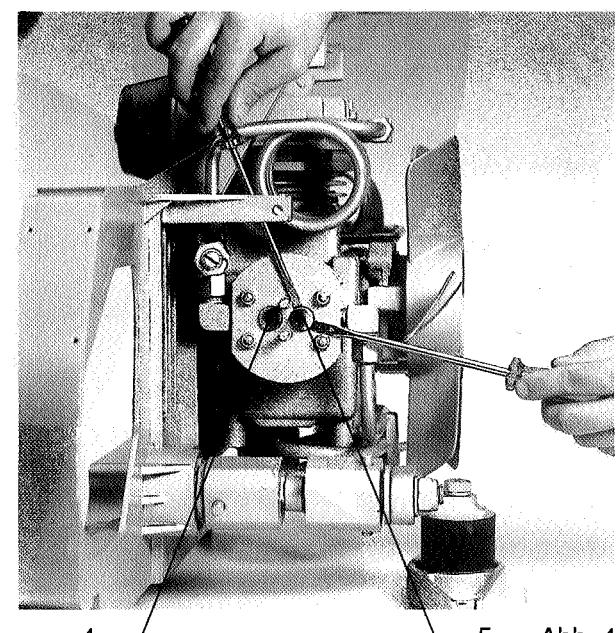

Abb. 4
- Remove the two nuts (2) with a 10 mm wrench as well as the flange (3).
- Carefully pull out the intake valve (4) and discharge valve (5) with 2 screw drivers (see fig. 4).
(Siehe Abb. 4).
- Separate the intercooler 2nd/3rd stage (6) from valve head (1).
- Separate the intercooler 1st/2nd stage (7) from valve head (1).
- Unscrew the nut (8) with a 10 mm wrench.
- Take off valve head (1).
- Carefully clamp valve head (1) in soft jaw vise and pull out the intake and pressure valves cautiously with two screw drivers. (see fig 4).
- Zwischenkühler 2./3. Stufe (6) vom Ventilkopf (1) trennen.
- Zwischenkühler 1./2. Stufe (7) vom Ventilkopf (1) trennen.
- Muttern (8) SW 10 abschrauben.
- Ventilkopf (1) abnehmen.
- Ventilkopf (1) vorsichtig mit Schutzbacken in Schraubstock einspannen und Saug- und Druckventile mit 2 Schraubendrehern vorsichtig aushebeln. (Siehe Abb. 4).